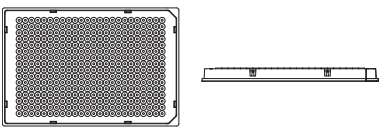

Figure 5: Full-skirted 384 well microplate with two notches and alphanumeric coding
2. Full-skirted 384 well microplate with two notches (Fig. 5)